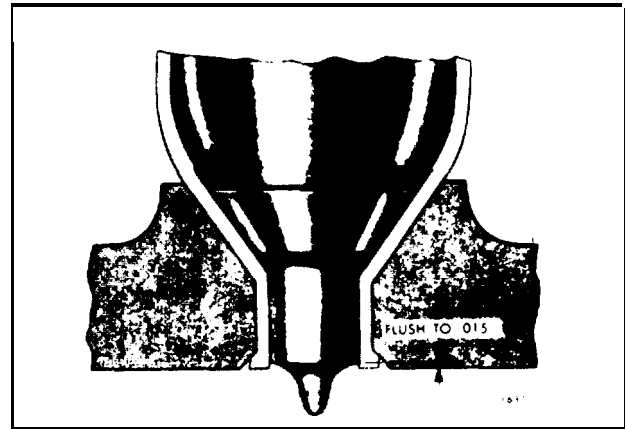

Fig. 6 - Checking Location of Injector Spray Tip Relative to Lower Surface of Cylinder Head
The tapered lower end of the injector tube must provide a smooth and true seat for the lower end of the injector nut to effectively seal the cylinder pressures and properly position the injector tip in the combustion chamber. Therefore, to determine the amount of stock that must be reamed from the bevel seat of the tube, the injector assembly should be installed in the tube and the relationship between the numbered surface of the spray tip to the fire deck of the cylinder head noted (Fig. 6).
- d. Remove the chips from the injector tube and, using an injector as a gage, continue the reaming operation until the shoulder of the spray tip is within the limits specified in Fig. 6. Then wash the interior of the injector tube with trichloroethylene or clean fuel oil and dry it with compressed air.